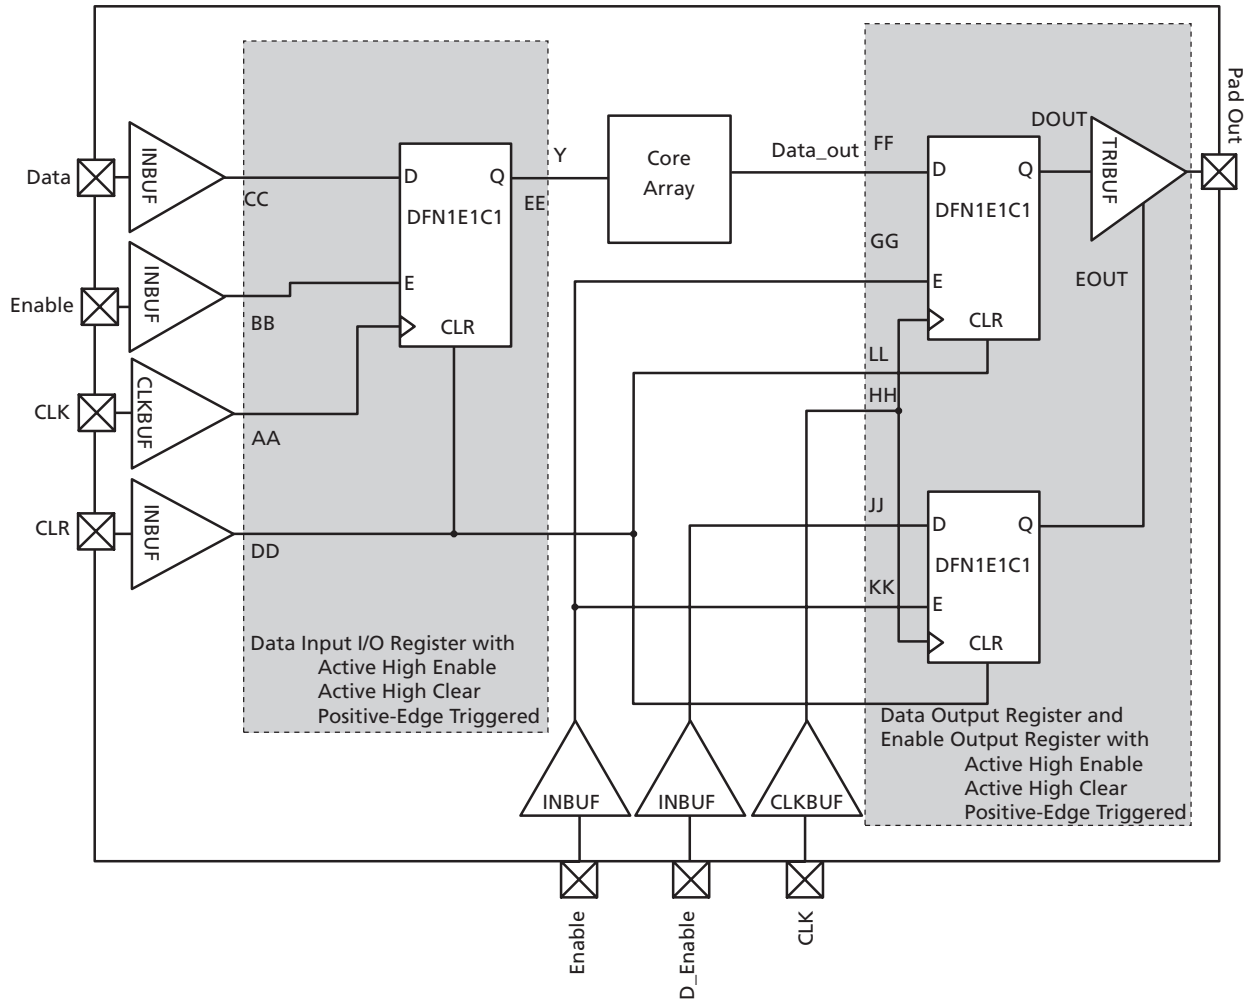

Figure 2-25 • Timing Model of the Registered I/O Buffers with Synchronous Enable and Asynchronous Clear
* See Figure 2-25 on page 2-52 for more information.